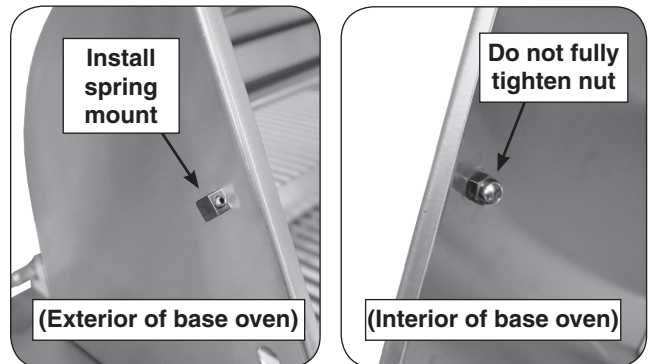

Fig. 3-2 Install spring mount (on base oven)
8. **BASE OVEN SIDE WALL:** install the new mounting hardware. Do not fully tighten. Leave slightly loosened to allow some play for the next step. See Fig. 3-2.
11. Fully tighten the spring mount from inside the base oven. Reference Fig. 3-2.